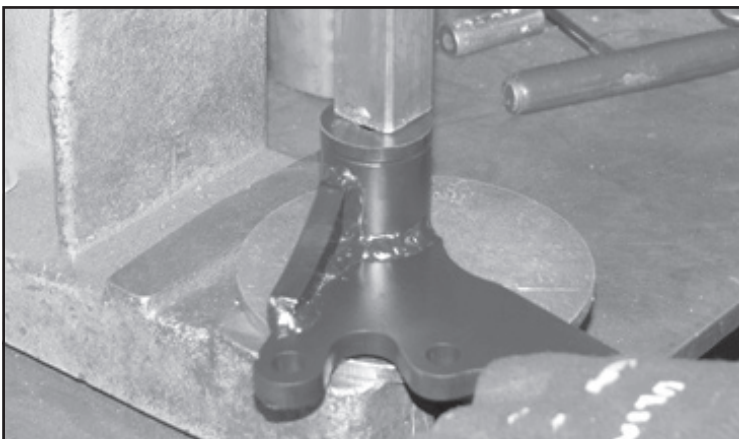

FIGURE 35 - STEP 25
25. Locate the center differential bracket (FT30645). Install two of the Fabtech (FT1020) bushings and one sleeve (FT181) into the barrel on the differential bracket. **SEE FIGURE 35**